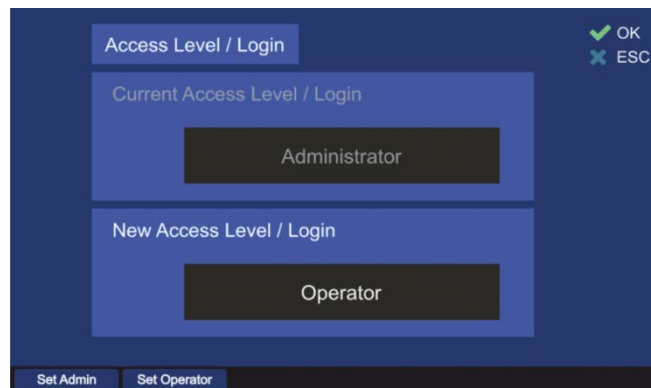

Fig. 72 Editing the access level to "Operator"
1. Pressing the hotkey “Set Admin” will lead to the “Set Admin” dialog, where the password input is required (s. 6.4.1.5). Pressing the hotkey “Set Operator” will change the “New Access Level /Login” field to access level “Operator” (s. Fig. 72):